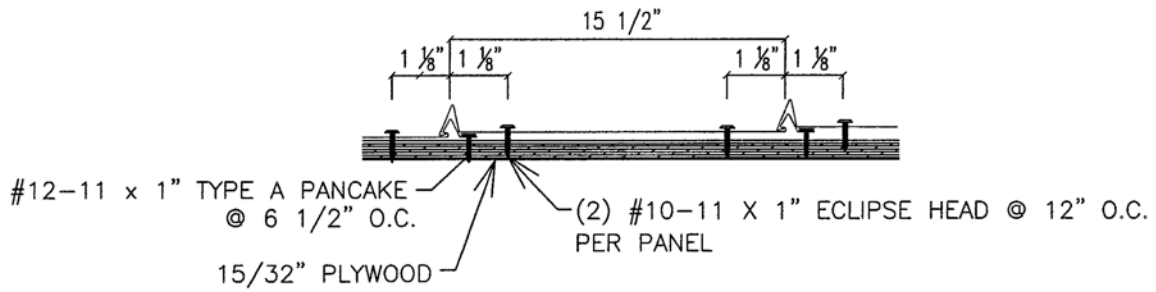

Figure 1. 1.5" Nailstrip Panel Detail (Minimum 24 Gauge)
**Panels:** The 1.5" nailstrip metal roofing panels shall be secured to the roof deck as specified in Table 1 and in accordance with this section. Refer to Figure 1 for an illustration of the required fastener pattern.
**Roof Panels:** Minimum No. 12-11 x 1" long, Pancake Type A screws, manufactured by ITW Buildex and No. 10-11 x 1" Eclipse screws by Sealtite. The fasteners shall be long enough to ensure a minimum penetration of  $\frac{1}{4}$ " below the roof deck. (Note: If the metal roofing panels are installed over an existing roof covering, then the fastener length shall be increased so that the fasteners are long enough to ensure a minimum penetration of  $\frac{1}{4}$ " below the existing plywood roof decking.) The placement of the fasteners across the width of the panel shall be as shown in Figure 1 of this evaluation report. The spacing of the fasteners along the length of the panels shall be as specified in Table 1 and as shown in Figure 1 of this evaluation report.